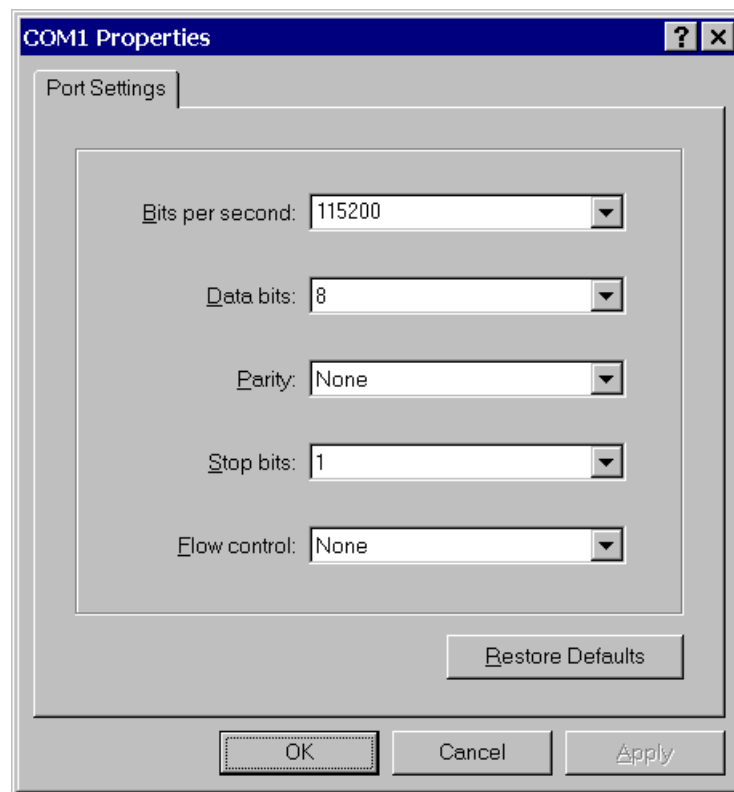

Figure 42: HyperTerminal Settings
- Select 115200 bits per second, 8 data bits, Parity None, 1 Stop bit, Flow control None. (See figure 42)